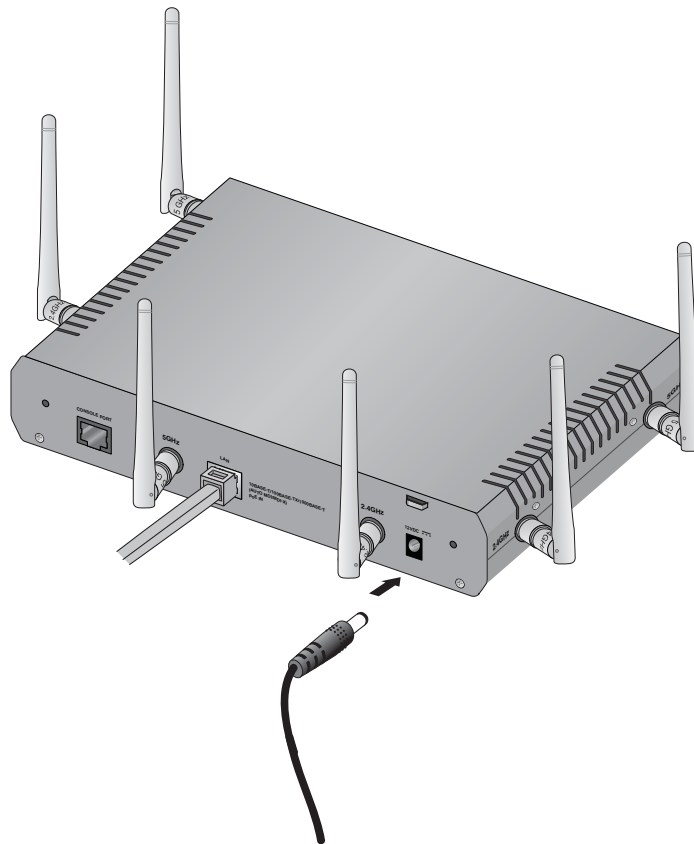

Figure 10. Attaching the DC Power Cable
6. Connect the DC cable on the AC/DC adapter to the 12VDC connector on the access point. Refer to Figure 10.